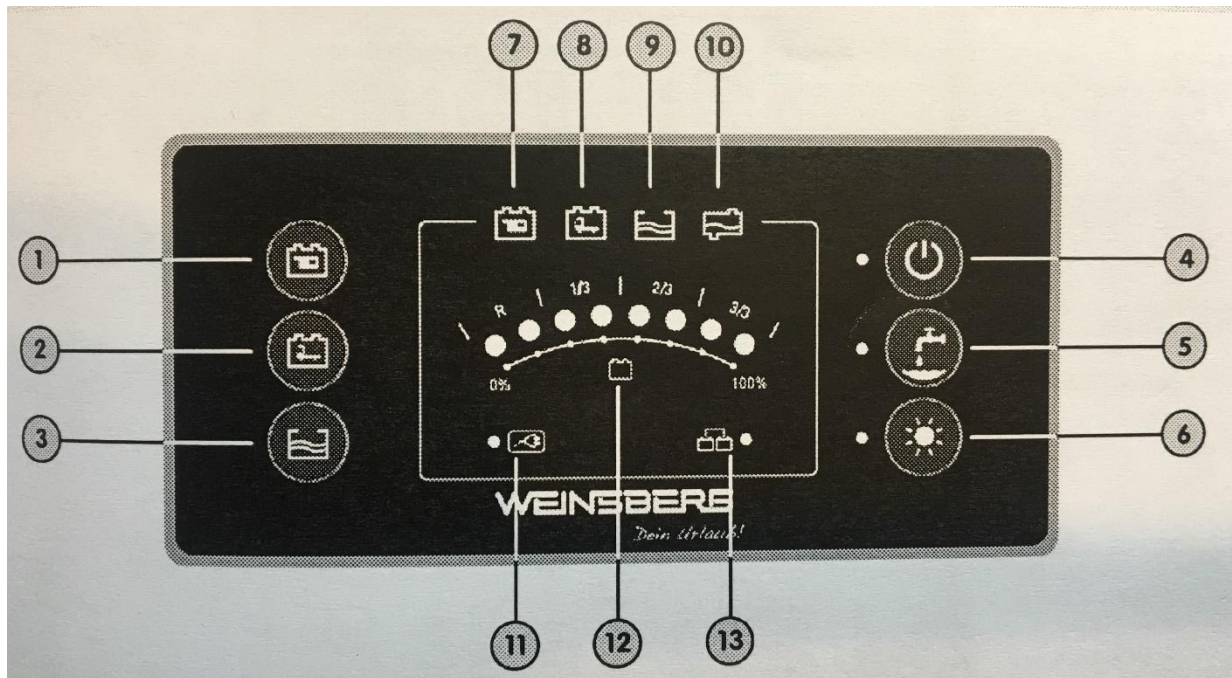

Fig. 1 – PC110 control and switch board
The backup battery is located under the rear bed. Activate the appropriate button (Fig. 1, item 2 or 1) to show the charging state of the starter battery or backup battery on the control panel.
Connect to the 230 Volt mains, using the provided external cable. Main switch (Fig. 1, item 4) must be switched on in this case.
Switch off all electrical appliances while charging to achieve a rapid and optimum charge. Charging state of the backup battery should be checked on the LED display by activating the appropriate button (Fig. 1, item 1) and the LED row (Fig. 1, item 12) on the control panel.
When not in use, the complete 12 Volt system can be switched OFF with main switch (Fig. 1, item 4) on the control panel. The 12 Volt unit is not in operation when the green light to the left of the power button does not go on. The electrical supply to the refrigerator, when in 12 Volt operation and to the heating is however maintained.